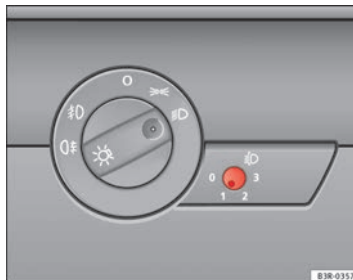

Fig. 88 Headlight range control
- Briefly press the knob  => fig. 88 to release it from its set position.